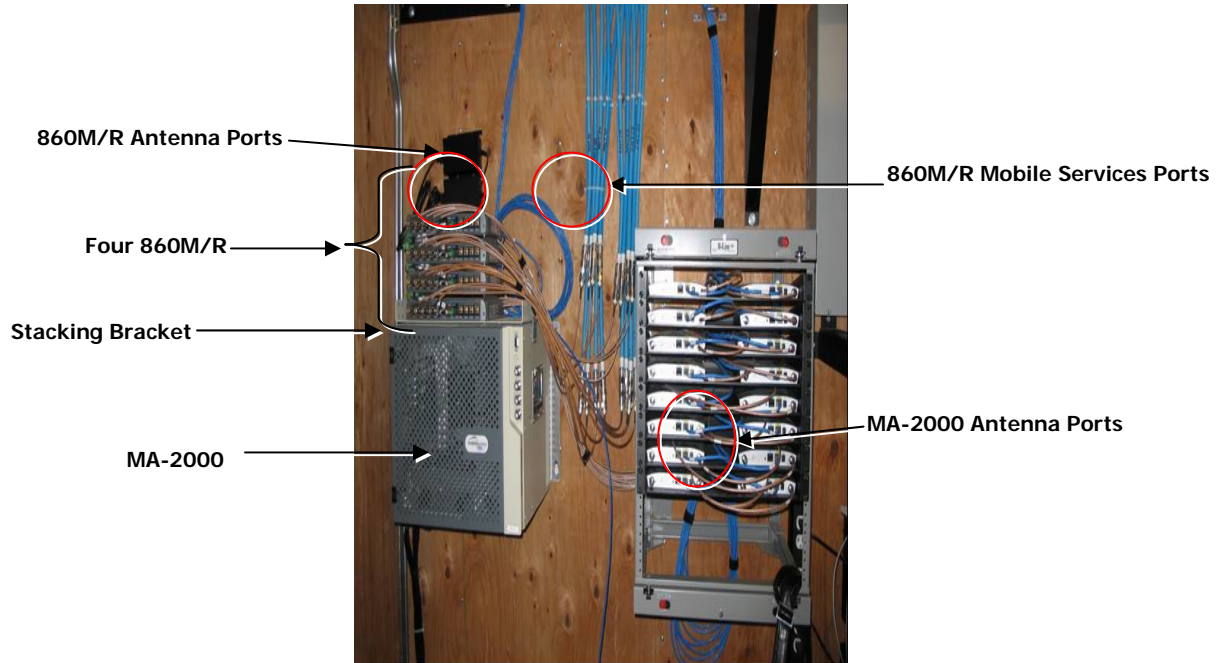

Figure 3–13: 860M/R Stacked on top of MA-2000
In order to stack the 860M/R on top of the MA-2000 as shown in **Figure 3–13: 860M/R Stacked on top of MA-2000**, follow the steps outlined below:
4. Assemble the BRKT-1RU-SHELF-2K by screwing on the side brackets as illustrated in **Figure 3–14. 860M/R MA-2000 Stacking Bracket Assembly** with the four screws and washers.